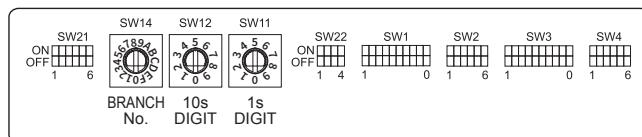

Fig. 5-13
5.6. Setting addresses (Fig. 5-13)